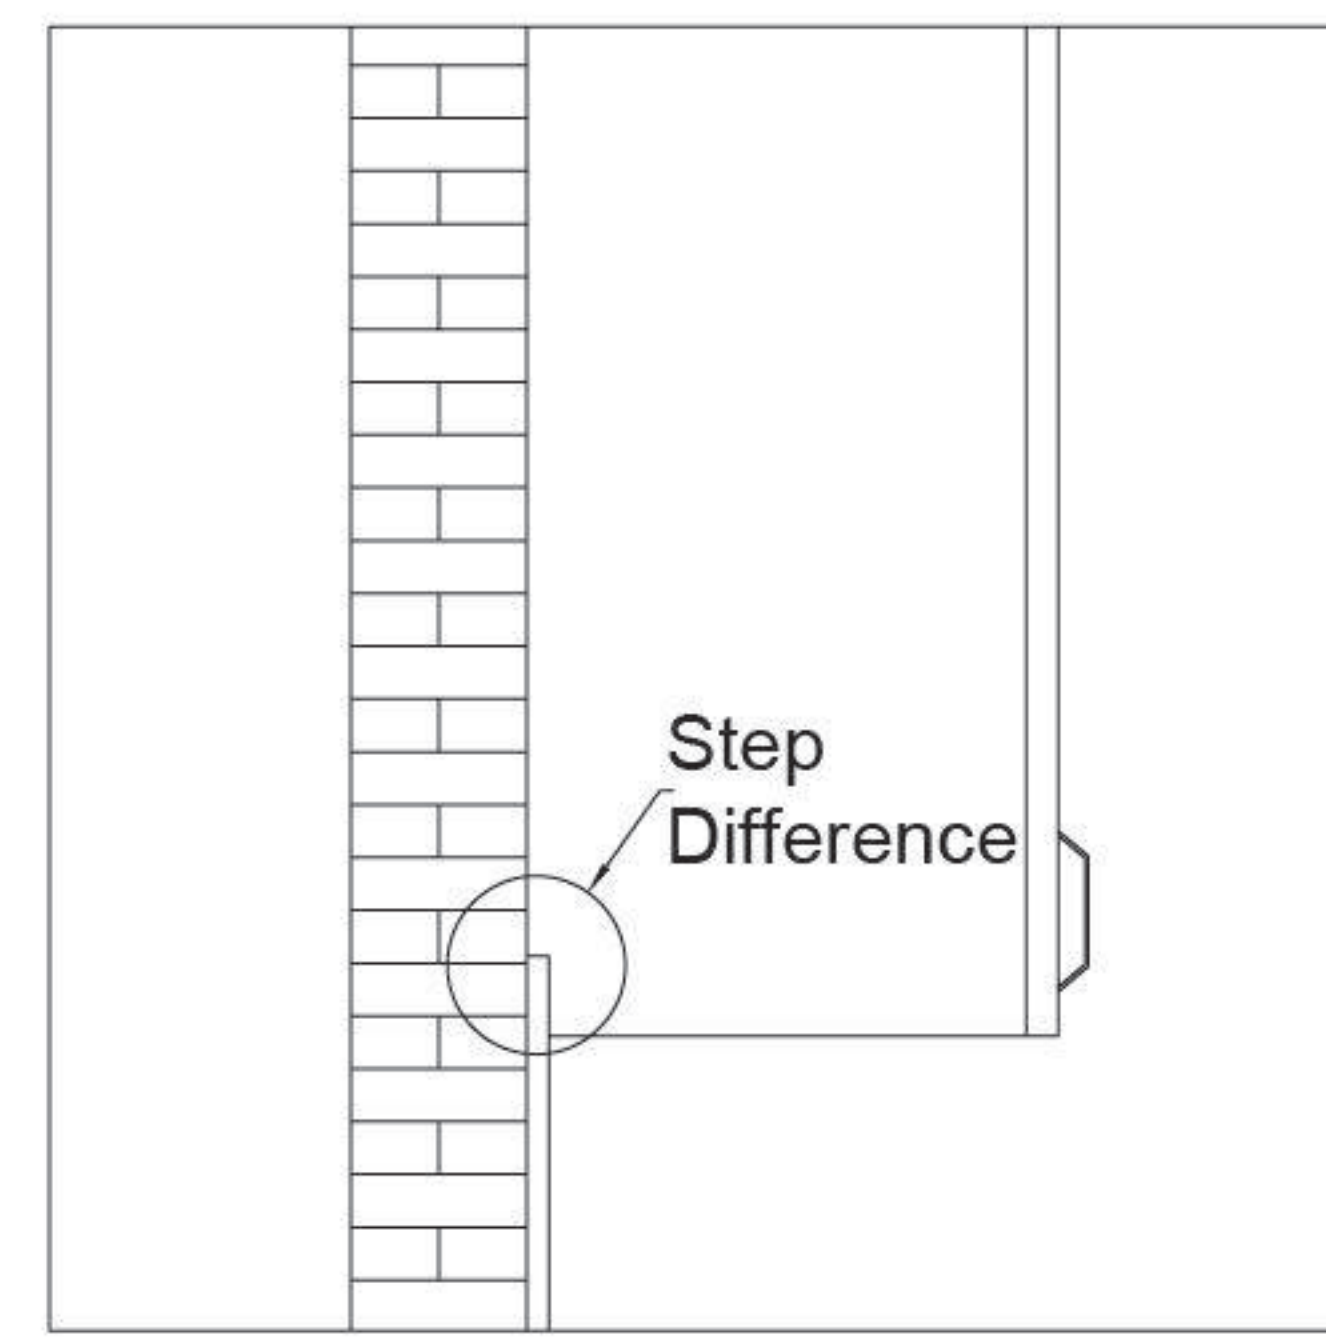
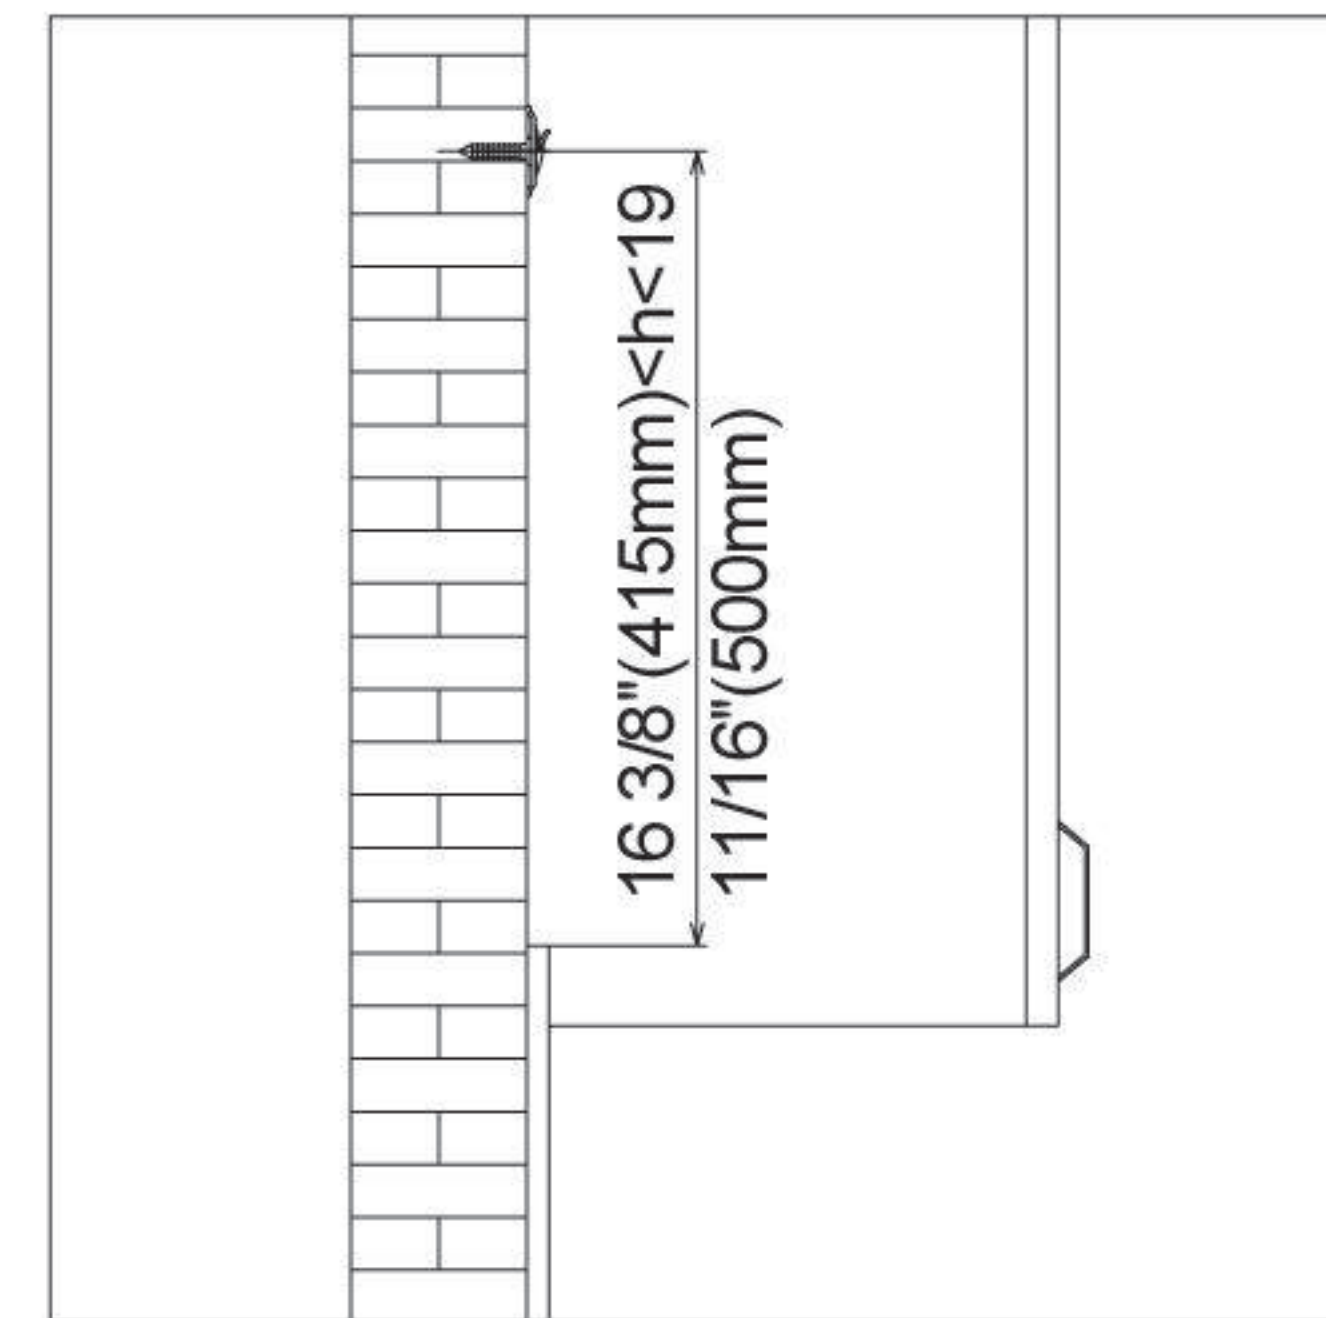

Fig. 1
Fig. 2
- Where there is a step difference on the installation wall of the range hood as shown in Fig.1, if there is a situation as shown in Fig.2, the operation shall be carried out as shown in Fig.3, i.e., the support plates shall be added on the back of the hook and the foot-pad of the range hood. The thickness of the support plates shall be consistent with the height of the steps.